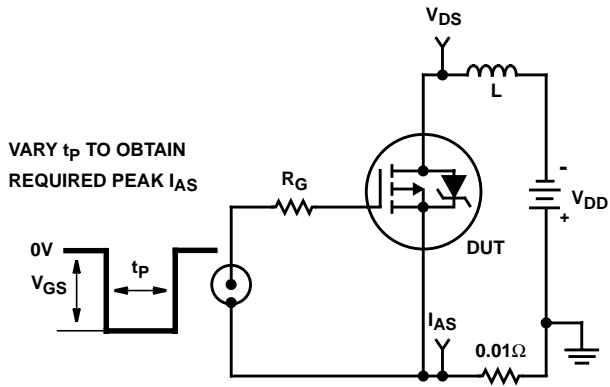

FIGURE 15. UNCLAMPED ENERGY TEST CIRCUIT
4. $V_{DD} = 25V$, starting $T_J = 25^{\circ}C$, $L = 3.2mH$, $R_G = 25\Omega$, peak $I_{AS} = 25A$ See Figures 15, 16.